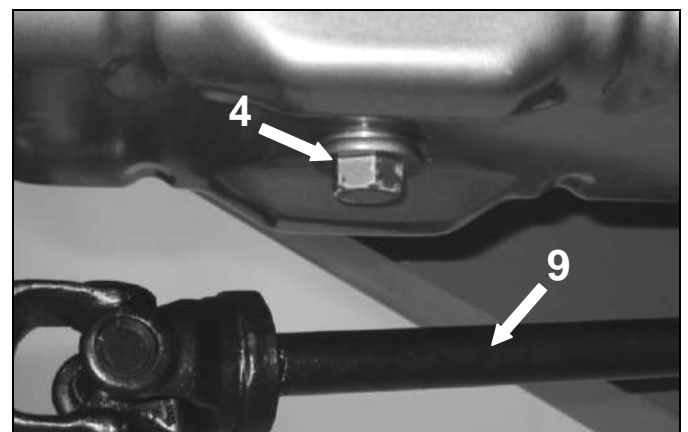

fig.8/4
- 28 - Push-pull type hydraulic sockets 1/2" F-ISO7241-1A (fig.8/18) with dual-effect distributor for eventual tools requiring additional hydraulic controls, controlled by the lever **A** (fig.8/18).
- 21 - Vano batteria elettrica 12V 65A (fig.8/6)